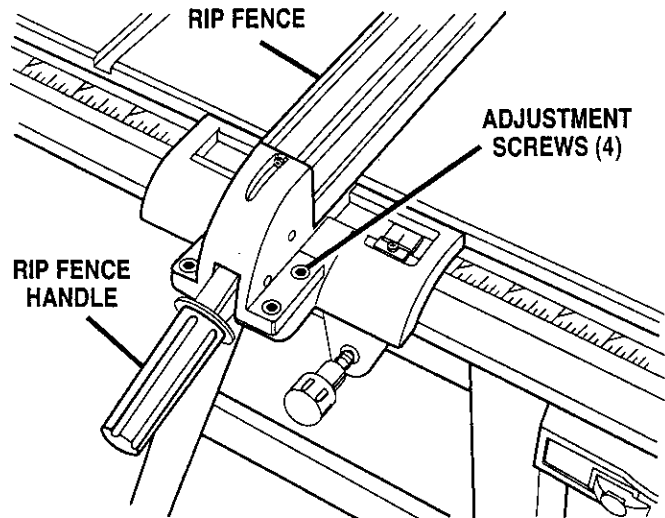

Fig. 16
- If the distances are different, loosen the four screws around the rip fence handle with a 6 mm hex key. Alternate the order (remove the screw opposite, not next to the first one). See *Figure 16*.